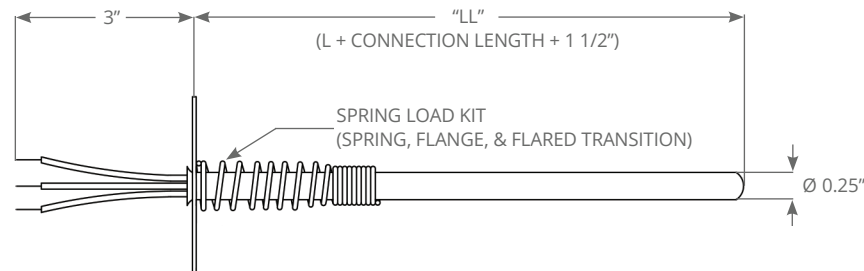

Figure 4
- 1 Slip the spring (small end first) over the lead wires. (See Figure 4)